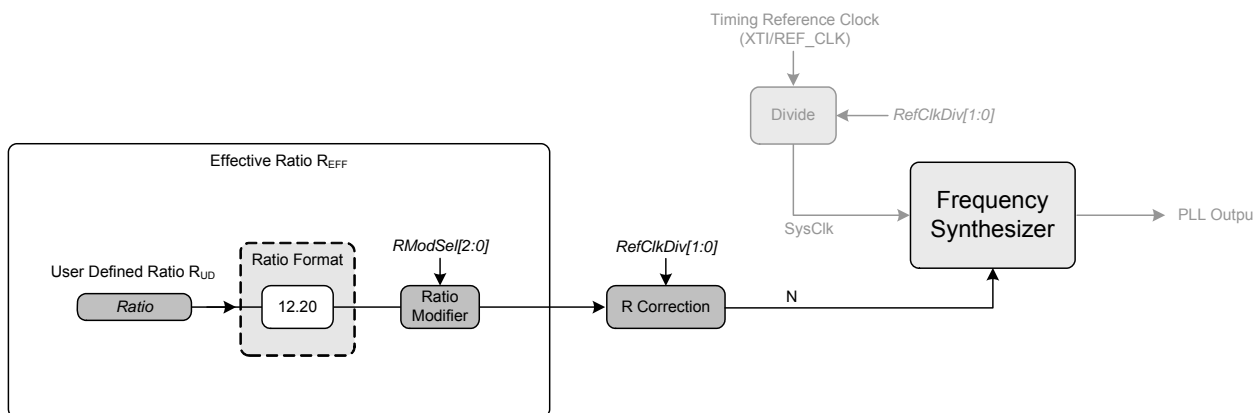

Figure 8. Ratio Feature Summary
The R_{UD} is the user defined ratio stored in the register space. R-Mod is applied if selected. The user defined ratio, and ratio modifier make up the effective ratio R_{EFF} , the final calculation used to determine the output to input clock ratio. The effective ratio is then corrected for the internal dividers. The conceptual diagram in Figure 8 summarizes the features involved in the calculation of the ratio values used to generate the fractional-N value which controls the Frequency Synthesizer.
- Changes made to the registers which affect the Fraction-N value that is used by the Frequency Synthesizer. This includes all the bits shown in Figure 8 on page 14.